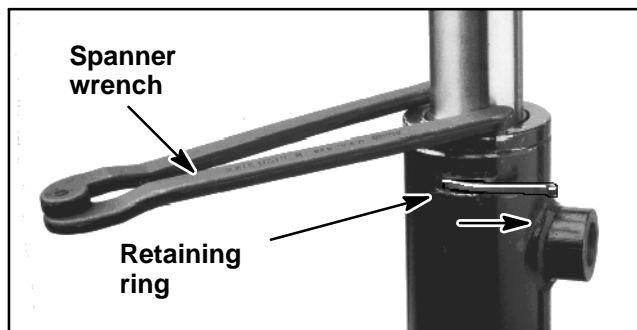

Figure 17
3. Using a spanner wrench, rotate head (item 9) clockwise until the edge of the retaining ring appears in the tube opening. Insert a screwdriver under the beveled edge of the retaining ring to start the retaining ring through the tube opening. Rotate the head counter-clockwise to remove retaining ring (item 8) as shown in Figure 17.